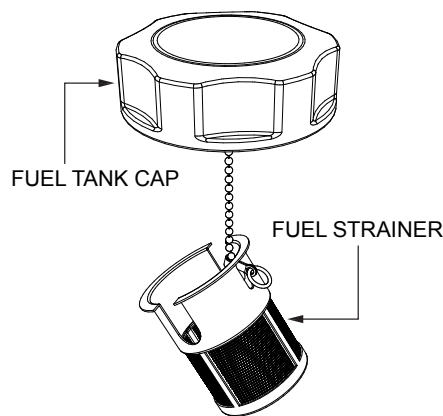

Figure 63. Fuel Strainer
3. Remove, inspect, and clean the fuel strainer (Figure 63) with solvent.